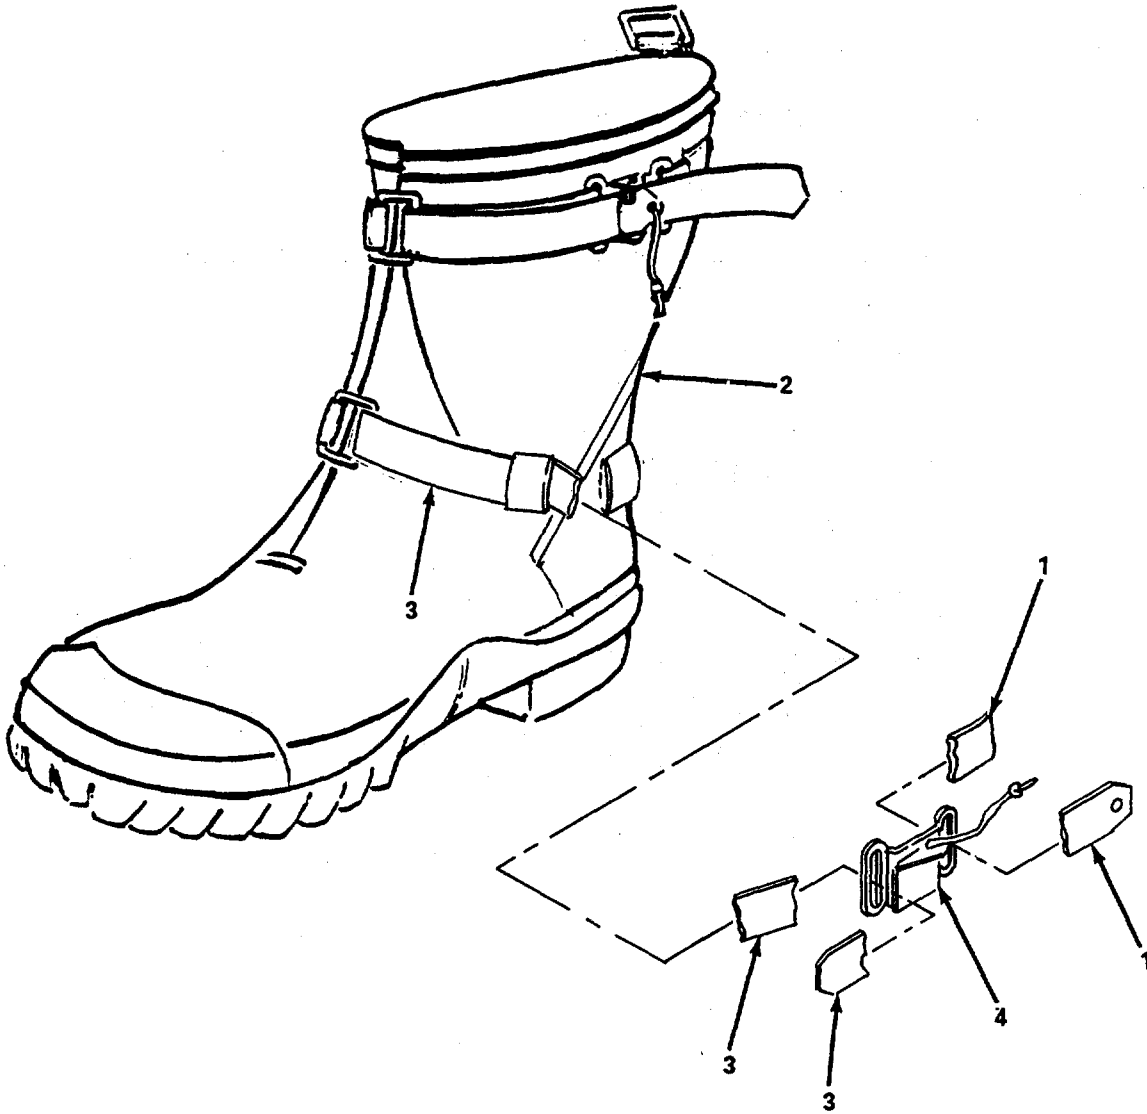

Figure 4-6. Buckle, Repair.
(3) *Replace buckle.* (figure 4-6)
- (a) Remove loop (1) from boot (2).
- (b) Remove strap (3) from buckle (4).
- (c) Remove strap (3) from boot (2) and remove buckle (4).
- (d) Install new buckle (4) on strap (3) and sew strap (3) to boot (2) with a box stitch (7 to 9 stitches per inch).
- (e) Install loop (1) on buckle (4) and sew loop (1) to boot (2) with box stitch (7 to 9 stitches per inch).